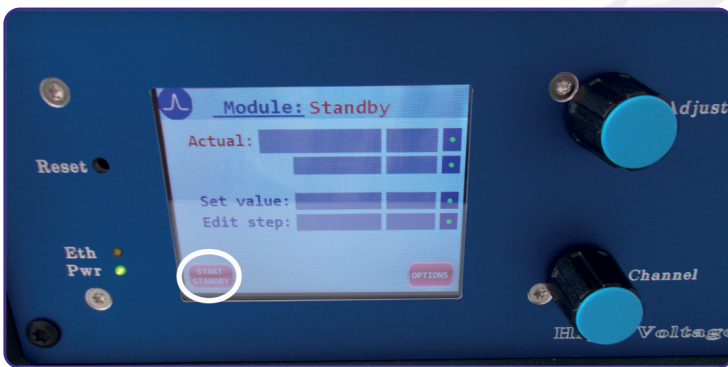

Figure 3: Standby mode.
After switching on the device (14), the display (3) shows the “Surface Concept” animated logo, while the device is scanning for internal available HV modules and their specific settings. This can take up to several seconds. If the device is ready for operation, it switches into the standby mode and shows an empty mask for the voltage adjustment (see Figure 3).